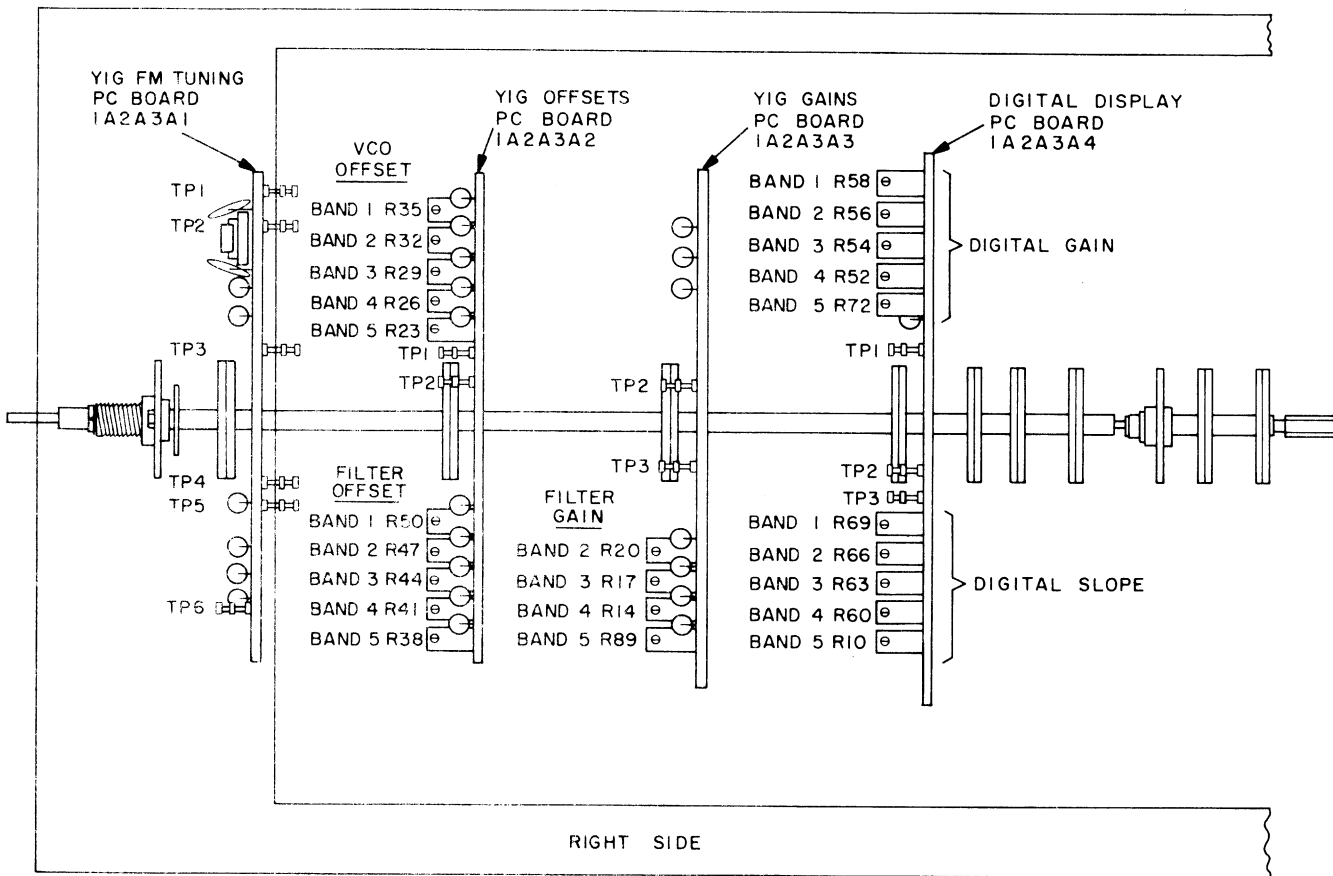

Figure 6-2. Adjustable Component and Test Point Location Diagram for RF Range Switch Assemblies 1A2A3A1 Through 1A2A3A4
3. Twenty comb lines should appear on the display. If not, adjust BAND 1 FILTER OFFSET potentiometer 1A2A3A2R50 (Figure 6-2) on Yig Offset Board (part of RF Range Switch Assembly 1A2A3) until 20 comb lines appear. Two settings are possible; the most clockwise setting is correct.
1. Connect an AILTECH 70790 Comb Generator to RF INPUT connector on Front Panel and turn TUNING control to center trace on display. Ground test point 1A14TP1 on Digital Display Printed Circuit Board No. 2 1A14 (Figure 6-1) with a clip lead. This centers the band on the display and disables the TUNING. The CENTER FREQUENCY (MHz) readout should indicate 1000 MHz. If not, adjust BAND 1 DIGITAL SLOPE potentiometer 1A2A3A4R69 (Figure 6-2) on RF Range Switch Assembly 1A2A3 for the proper reading.
2. Locate 1000 MHz comb line by counting 10 lines up from the zero beat line. (Note: Zero beat line does not change amplitude when RF ATTEN (dB) control is rotated.) The 1000 MHz line should fall in center of display. If not, adjust BAND 1 VCO OFFSET potentiometer 1A2A3A2R35 (Figure 6-2) on RF Range Switch Assembly 1A2A3. Adjust BAND 1 FILTER OFFSET potentiometer 1A2A3A2R50 (Figure 6-2) on RF Range Switch Assembly 1A2A3 for maximum amplitude.
3. Remove clip lead from test point TP1 on Digital Display Printed Circuit Board No. 2 1A14, set SCAN WIDTH/DIV to 10 and adjust TUNING to set zero beat signal to center of display. Adjust BAND 1 DIGITAL GAIN potentiometer 1A2A3A4R58 (Figure 6-2) on RF Range Switch Assembly 1A2A3 until CENTER FREQUENCY (MHz) readout indicates 0 MHz. Set SCAN WIDTH/DIV control to 200 MHz position, RF ATTEN (dB) control to 40 and TUNING control to 1000 MHz. Adjust BAND 1 ADJ potentiometer 1A13R2 on Regulator Bias Printed Circuit Board 1A13 (Figure 6-1) until all signal amplitudes on display are maximized.
2. Adjust BAND 2 VCO and FILTER OFFSET potentiometers 1A2A3A2R47, and 1A2A3A2R32 respectively, on RF Range Switch Assembly 1A2A3 and FILTER GAIN potentiometer 1A2A3A3R20 (Figure 6-2), until 20 scan lines
3. Ground test point 1A14TP1 on Digital Display Printed Circuit Board No. 2 1A14 with a clip lead (Figure 6-1). This centers the band on display and disables TUNING. CENTER FREQUENCY (MHz) readout should indicate 3000 MHz; if not, adjust BAND 2 DIGITAL SLOPE potentiometer 1A2A3A4R66 (Figure 6-2) on RF Range Switch Assembly 1A2A3.
4. Locate 3000 MHz signal line on the display with a signal generator or frequency meter as in test setup of Figure 4-5. Adjust R32 (Figure 6-2) on RF Range Switch Assembly 1A2A3 to move this line to center of the display as SCAN WIDTH/DIV is decreased to 10 MHz per division. R47 must be adjusted simultaneously in order to maintain peak response.
5. Returning SCAN WIDTH/DIV to 200 MHz, adjust BAND 2 FILTER GAIN potentiometer R20 (Figure 6-2) on RF Range Switch Assembly 1A2A3 until maximum amplitude occurs for all 20 lines displayed. It should be noted that these adjustments are optimized when SIGNAL CENTER control is at the center of its range.
6. Remove the clip lead from test point TP1 on Digital Display Printed Circuit Board No. 2 1A14 and ensure that 3000 MHz is still centered on the display. Adjust TUNING control if not centered. With SCAN WIDTH/DIV at 30 MHz, rotate TUNING control slowly counterclockwise and count 100 MHz comb lines until the 2000 MHz line (band 2 lower calibration point) is identified. Set SCAN WIDTH/DIV to 10 MHz per division and center this line. Adjust BAND 2 DIGITAL GAIN potentiometer 1A2A3A4R56 (Figure 6-2) on RF Range Switch Assembly 1A2A3 until CENTER
2. Adjust BAND 3 VCO and FILTER OFFSET potentiometers and BAND 3 FILTER GAIN potentiometer 1A2A3A2R29, 1A2A3A2R44, and 1A2A3A3R17 on RF Range Switch Assembly 1A2A3 (Figure 6-2) until 50 scan lines appear on the display at maximum amplitude.
3. Ground test point 1A14TP1 on Digital Display Printed Circuit Board No. 2 1A14 with a clip lead (Figure 6-1). CENTER FREQUENCY (MHz) readout should indicate 5800 MHz, if not, adjust BAND 3 DIGITAL SLOPE potentiometer 1A2A3A4R63 (Figure 6-2) on RF Range Switch Assembly 1A2A3.
4. Locate 5800 MHz line (center frequency, band 3) with signals generator or frequency meter. Adjust potentiometers R29 and R44 (Figure 6-2)
5. Set SCAN WIDTH/DIV to 500 MHz per division and adjust BAND 3 FILTER OFFSET and BAND 3 FILTER GAIN potentiometers 1A2A3A2R44 and 1A2A3A3R17 (Figure 6-2) on RF Range Switch Assembly 1A2A3 until maximum amplitude is displayed for all comb lines. It should be noted that these adjustments are optimized when SIGNAL CENTER control is at the center of its range.
6. Remove the clip lead from test point TP1 on Digital Display Printed Circuit Board No. 2 1A14 and verify that 5800 MHz is still in the center of the display. Adjust TUNING control if not centered. With SCAN WIDTH/DIV at 30 MHz, rotate TUNING control slowly counterclockwise and count 100 MHz comb lines until the 4800 MHz line (band 3 lower calibration point) is identified. Set SCAN WIDTH/DIV to 10 MHz per division and center this line. Adjust BAND 3 DIGITAL GAIN potentiometer 1A2A3A4R54 (Figure 6-2) on RF Range Switch Assembly 1A2A3 until CENTER FREQUENCY (MHz) readout indicates 3300 MHz. With a frequency meter or signal generator, verify that the comb line is indeed 3300 MHz. With a frequency meter or signal generator, SET SCAN WIDTH/DIV to 200 MHz and RF ATTEN (dB) control to 20.
2. Adjust BAND 4 VCO and FILTER OFFSET potentiometer and BAND 4 FILTER GAIN potentiometers 1A2A3A2R26, 1A2A3A2R41, and 1A2A3A3R14 on RF Range Switch Assembly 1A2A3 (Figure 6-2) until 70 scan lines appear on the display at maximum amplitude.
3. Ground test point 1A14TP1 on Digital Display Printed Circuit Board No. 2 1A14 with a clip lead (Figure 6-1). CENTER FREQUENCY (MHz) readout should indicate 8900 MHz, if not, adjust BAND 4 DIGITAL SLOPE potentiometer 1A2A3A4R60 (Figure 6-2) on RF Range Switch Assembly 1A2A3.
4. Locate 8900 MHz line (center frequency, band 4) with signal generator or frequency meter. Adjust potentiometers R26 and R41 (Figure 6-2) on RF Range Switch Assembly 1A2A3 to move this line to center of display as SCAN WIDTH/DIV is decreased to 10 MHz.
5. Set SCAN WIDTH/DIV to 700 MHz per division and adjust potentiometer 1A2A3A3R14 on RF Range Switch Assembly 1A2A3 until maximum amplitude is displayed for all comb lines. (Note: It may be necessary to degauss the Yig components from the hysteresis buildup. This is accomplished by exercising the SCAN WIDTH/DIV control from the 700 MHz to 10 MHz positions at least once.) Readjust potentiometers R41 and R14 (Figure 6-2) until maximum amplitude is displayed for all comb lines. It should be noted that these adjustments are optimized when SIGNAL CENTER control is at the center of its range.
6. Remove the clip lead from test point TP1 on Digital Display Printed Circuit Board No. 2 1A14 and verify that 8900 MHz is still in the center of the display. Adjust TUNING control if not centered. With SCAN WIDTH/DIV at 30 MHz, rotate TUNING control slowly counterclockwise and count 100 MHz comb lines until the 5400 MHz line (band 4 lower calibration point) is identified. Center this line at 10 MHz per division and adjust BAND 4 DIGITAL GAIN potentiometer 1A2A3A4R52 (Figure 6-2) on RF Range Switch Assembly 1A2A3 until CENTER FREQUENCY (MHz) readout indicates 5400 MHz. Set SCAN WIDTH/DIV to 500 MHz position and RF ATTEN (dB) control to 10 position.
2. Adjust BAND 5 VCO and FILTER OFFSET potentiometers and BAND 5 FILTER GAIN potentiometer 1A2A3A2R23, 1A2A3A2R38, and 1A2A3A3R89 on RF Range Switch Assembly 1A2A3 (Figure 6-2) until 120 scan lines appear on the display at maximum amplitude.
3. Ground test point 1A14TP1 on Digital Display Printed Circuit Board No. 2 1A14 with a clip lead (Figure 6-1). CENTER FREQUENCY (MHz) readout should indicate 16000 MHz; if not, adjust BAND 5 DIGITAL SLOPE potentiometer 1A2A3A4R10 (Figure 6-2) on RF Range Switch Assembly 1A2A3.
by exercising the SCAN WIDTH/DIV control from the 700 MHz to 10 MHz positions at least once.) Readjust potentiometers R23 and R89 (Figure 6-2) until maximum amplitude is displayed for all comb lines. It should be noted that these adjustments are optimized when SIGNAL CENTER control is at the center of its range.
6. Remove the clip lead from test point TP1 on Digital Display Printed Circuit Board No. 2 1A14 and verify that 16000 MHz is still in the center of the display. Adjust TUNING control if not centered. With SCAN WIDTH/DIV at 30 MHz per division, rotate TUNING control slowly counterclockwise and count 100 MHz comb lines until the 10000 MHz line (band 5 lower calibration point) is identified. Center this line at 10 MHz per division and adjust BAND 5 DIGITAL GAIN potentiometer 1A2A3A4R72 (Figure 6-2) on RF Range Switch Assembly 1A2A3 until CENTER FREQUENCY (MHz) readout indicates 10000 MHz. Set SCAN WIDTH/DIV to 700 MHz.